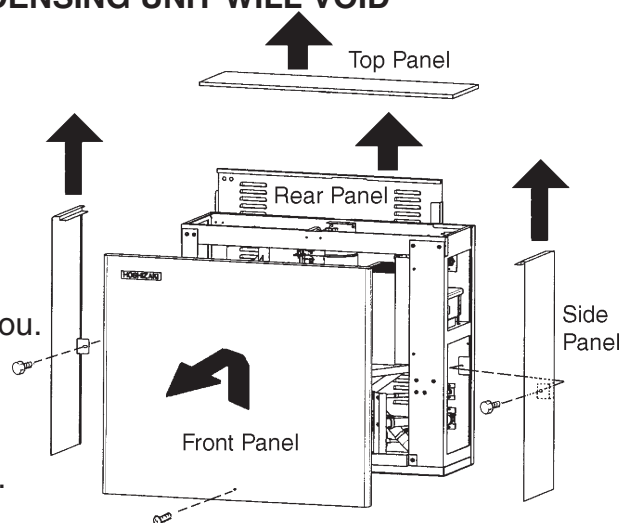

Fig. 1
2. How to Remove Panels See Fig. 1